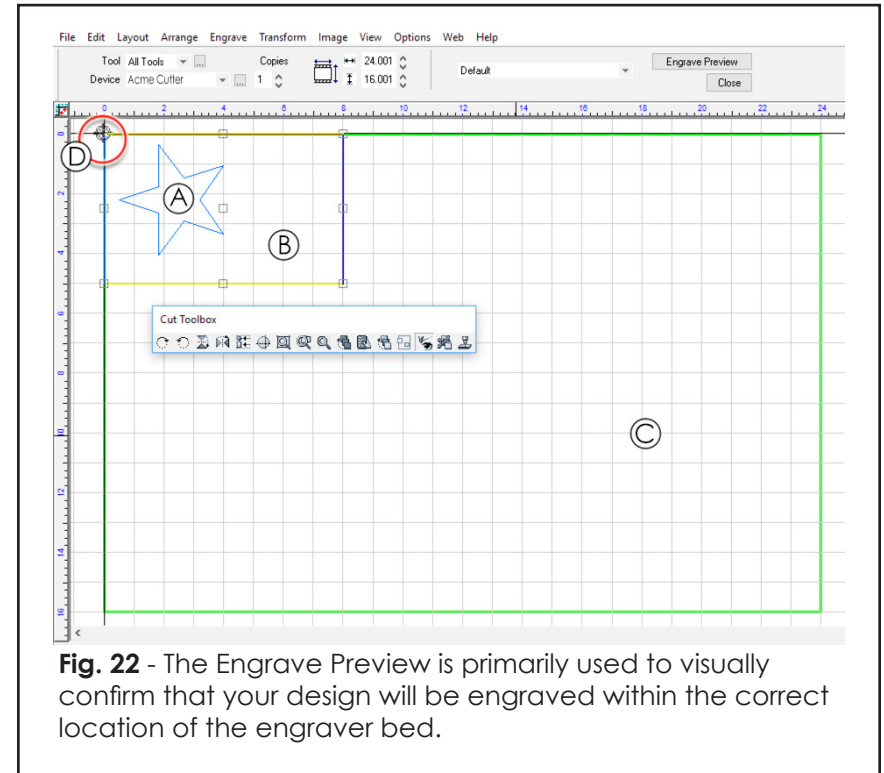

Fig. 22 - The Engrave Preview is primarily used to visually confirm that your design will be engraved within the correct location of the engraver bed.
40. The Engrave Preview will show the design as it would be cut upon the material (Fig. 22).